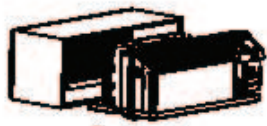

Fig.7
- Lift unit level and slide unit into wall sleeve until firmly against front of wall sleeve and secure with 4 screws and washers (supplied in the SLEEVE ASSEMBLY) through the unit flange holes. (See Fig.7 and Fig.8)